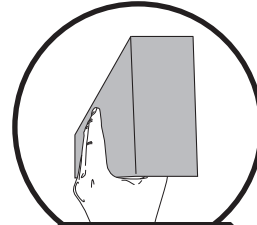

Fig.8b
3. Hold Deck Support Board from below until secured in place from above as shown in **(Fig. 8b)**.